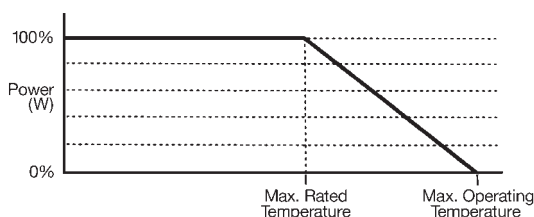

Figure 2: Example of Power Derating Curve
2. Power Rating and Performance Testing. Always use the trimmer potentiometer when testing rated performance. Carefully check the rated power, maximum operating voltage, operating temperature range, and other rated performance specifications. Increase or decrease the rated power according to the power derating curve. A typical power derating curve is shown in *Figure 2*. Use a trimmer potentiometer with sufficient allowable power rating to maintain stable performance over a long period of time. TOCOS recommends that the maximum working power should not be more than one-half the rated power of the trimmer potentiometer.